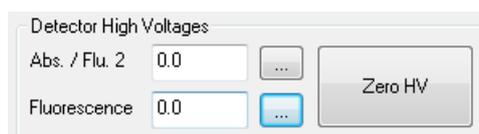

Figure 2.50: the Detector High Voltages panel
6) If the excitation maximum is known then type this wavelength into the **Wavelength (nm)** box on the **Monochromator** panel and click **Set**. The monochromator will immediately move to this wavelength. Now click the '...' button next to the **Fluorescence** box on the **Detector High Voltages** panel (Figure 2.50)